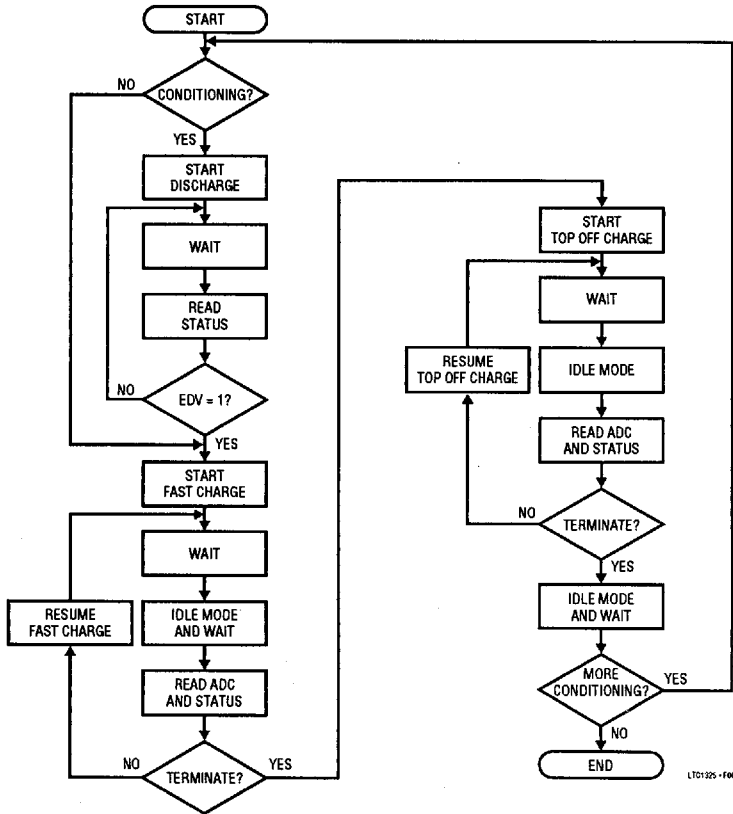

Figure 6. Simple Charging Algorithm
Figure 6 shows a simplified flowchart of a charging algorithm. In practice, this flowchart has to be augmented to take into account the occurrence of fail-safes at any point in the algorithm. For example, the battery temperature could rise above HTF during discharging or charging. Table 1 shows the corresponding command word the microprocessor sends to the LTC1325 in each step of the flowchart. General programming notes are as follows:
7. The FSCLR bit should be set to 1 to clear any faults and reset the timer when starting Discharge, Fast charge or Top Off. The status bits that the LTC1325 returns during the same I/O operation (that FSCLR is set to 1) should be checked to determine if faults were indeed cleared, i.e., discharging or charging has begun. This is not shown in the simplified flowchart of Figure 6. For commands other than the START commands, FSCLR should be set to 0 so as not to reset the timer.
10. Prior to the first START command, the battery divider setting may be incorrect so that C_F may charge to a voltage that causes EDV, BATR or MCV faults. The worst case time constant is as in (9). The microprocessor should check faults during the transmission of a START command and resend the START command again when C_F has been given enough time to charge up to the correct value.
Table 1. Commands for Flowchart in Figure 6